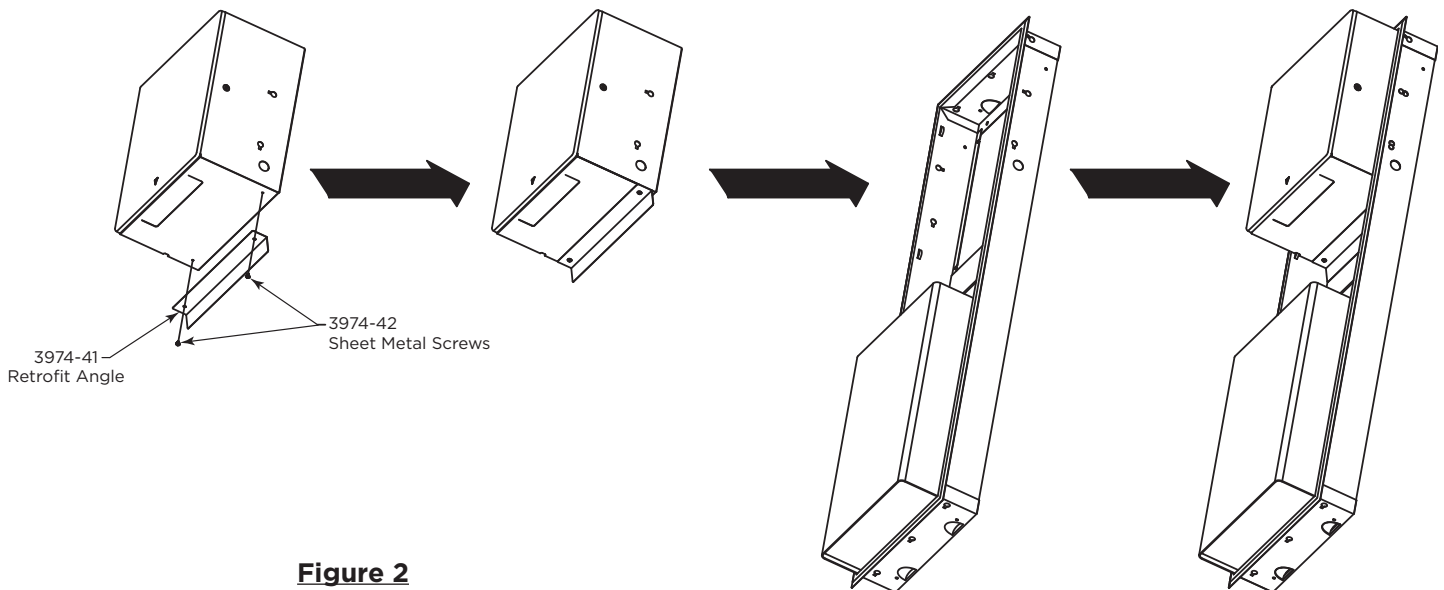

Figure 2
1. Use the 3974-42 Sheet Metal Screws to attach the 3974-41 Retrofit Angle to the bottom of the Roll Towel Module. Then install the 3974-350 Automatic Roll Towel Module into the towel dispenser wall frame per the instructions on Sheet 1 of this Installation Instruction sheet and Figure 2 below.